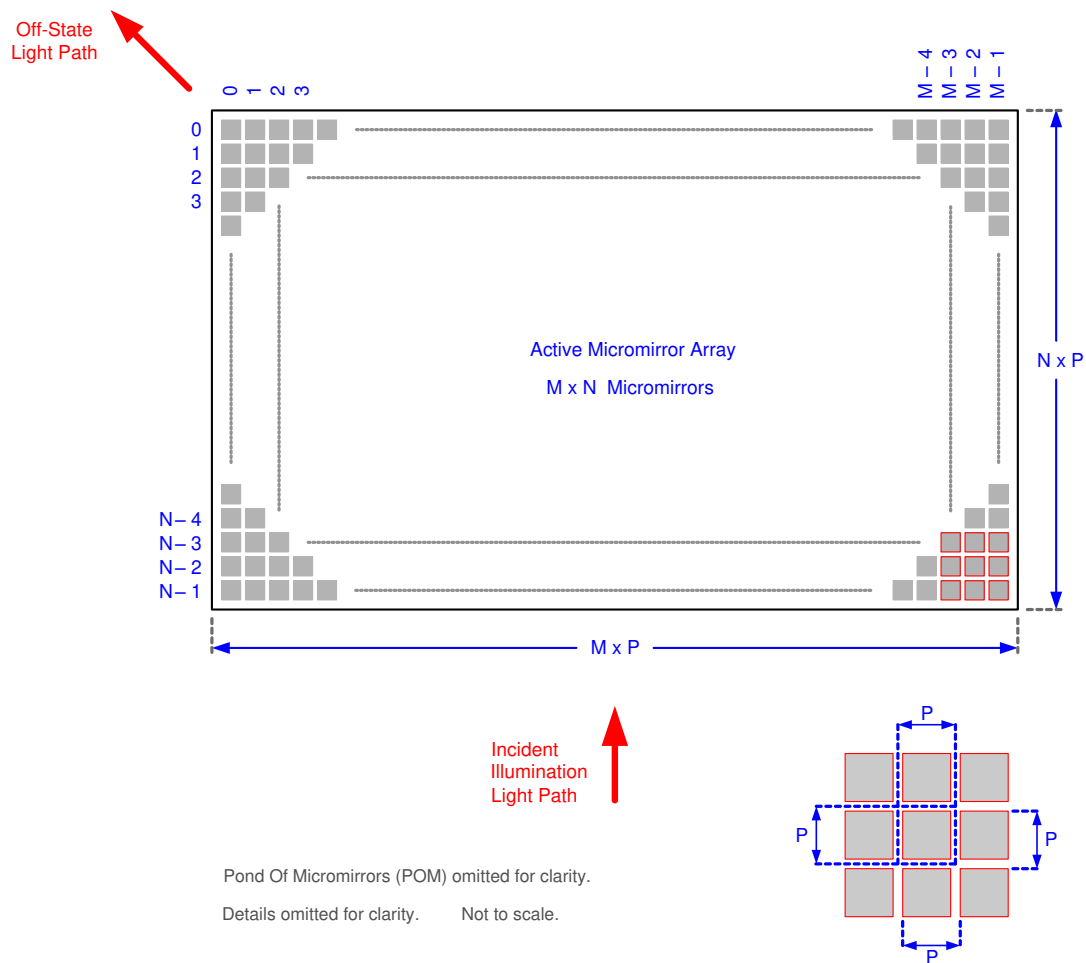

**图 6-13. System Mounting Interface Loads**
(1) The load should be uniformly applied in the corresponding areas shown in 图 6-13.